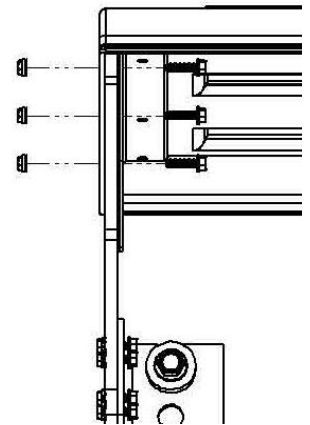

Figure 6
D. Install center bracket as close to the end of the fender as possible (Figure 6).